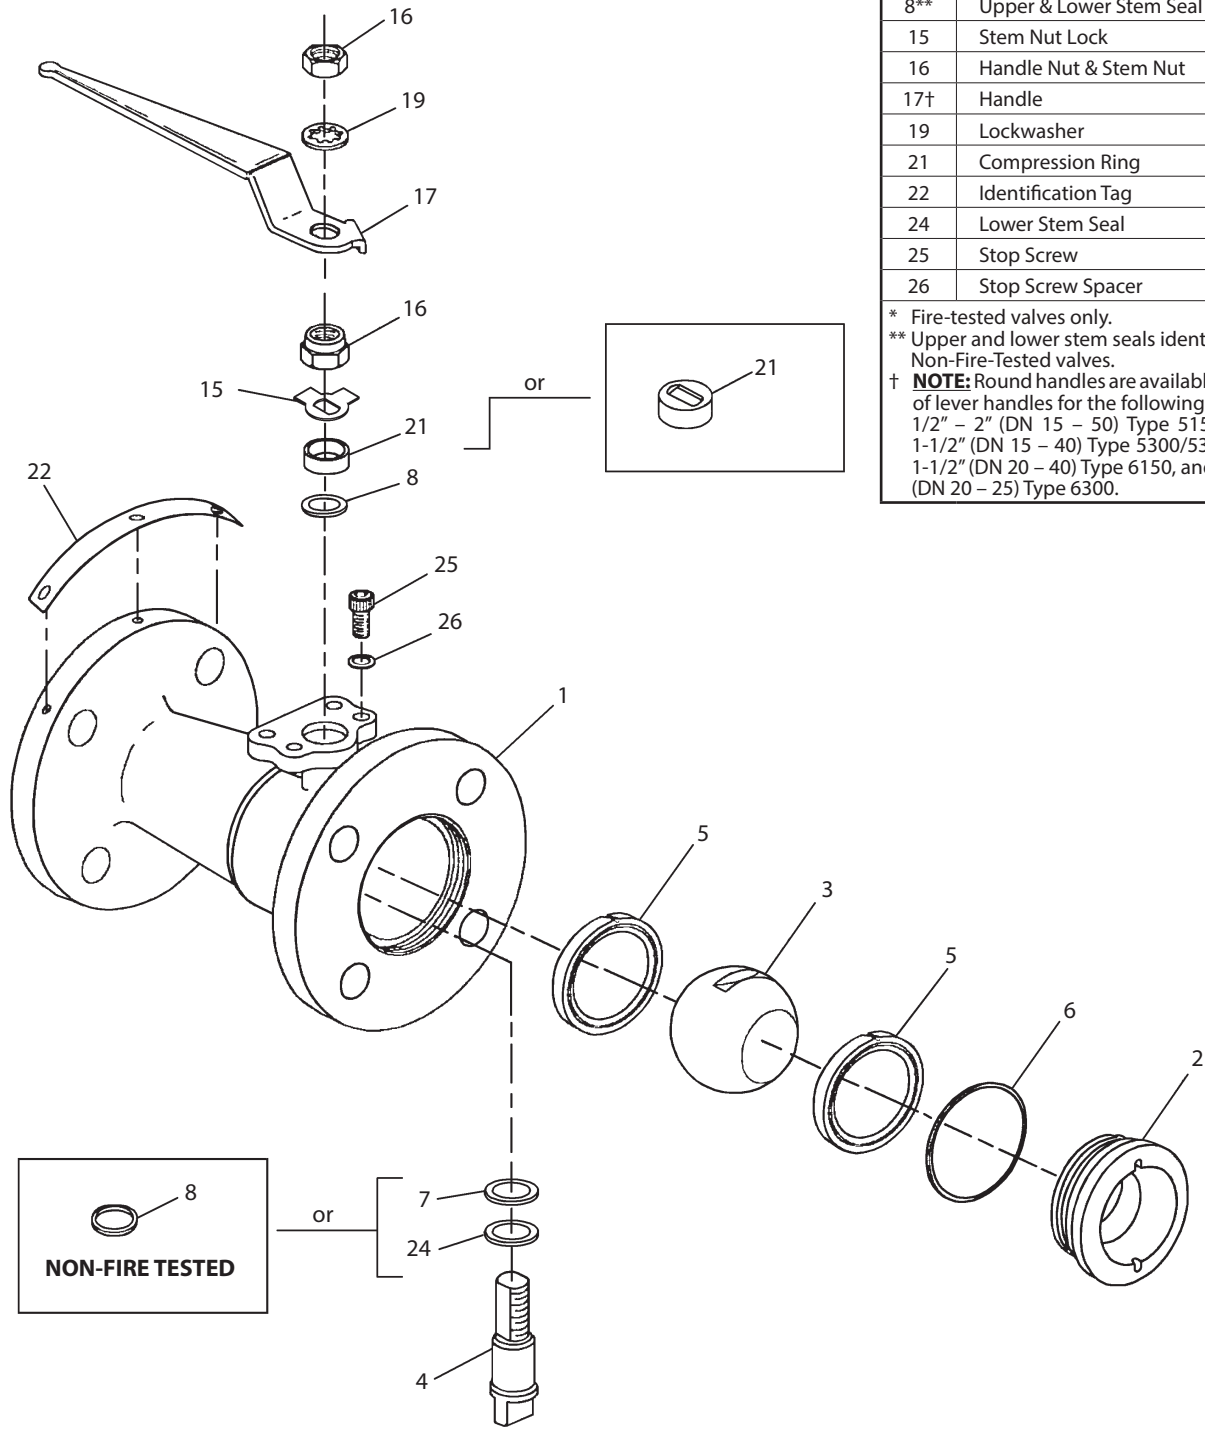

Figure 10
- c. From **Figure 10**, the ballooned part number, part name and quantity required.